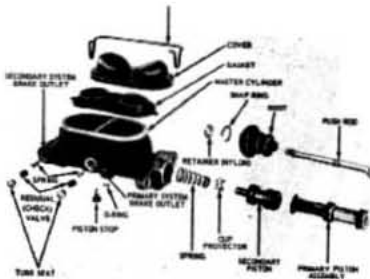

Fig. 51—Master Cylinder—Typical
1. Remove the filler cap from the master cylinder (Fig. 51). The diaphragm which seals the master cylinder should come off with the cap.